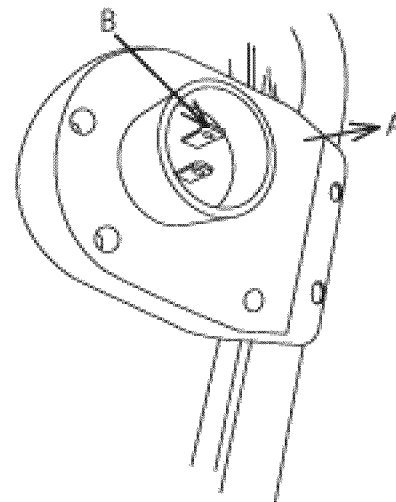

Figure 19
3. Note that the snowthrower has a polarized male plug, with one prong in the switch housing socket slightly longer and wider than the other (Fig. 19). The extension cord female end should be likewise polarized, so that the extension cord fits snugly into the switch housing socket.